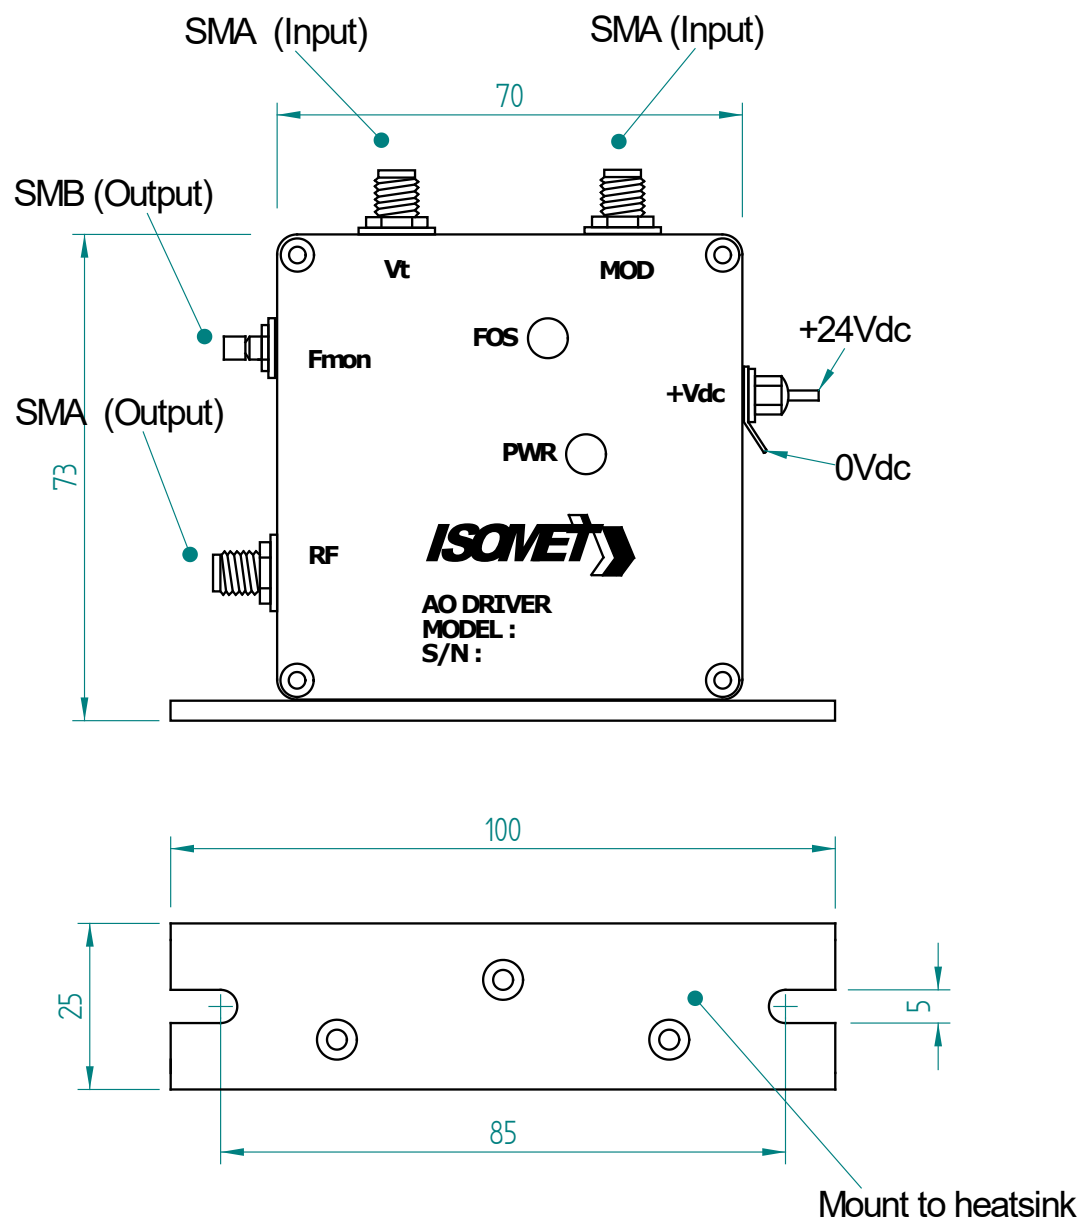

Figure 1, Driver Installation
The 630c series Modulator/Deflector Driver, figure 1, is a modular, swept-frequency RF power source specifically designed to operate with Isomet acousto-optic deflectors (scanners). The driver accepts a tuning voltage between approximately +0 volts and +10 volts and provides an RF output to the acousto-optic deflector at the tuned frequency. The driver also accepts an analogue modulating signal at baseband video frequency and provides a double-sideband amplitude modulated RF output to the acousto-optic deflector. Examples of popular driver specifications are listed below:
b. With no d-c power applied, connect the + 24Vdc line to the centre terminal of the feed-thru terminal as shown in Figure 1. DO NOT APPLY POWER UNTIL THE LOAD IS CONNECTED.